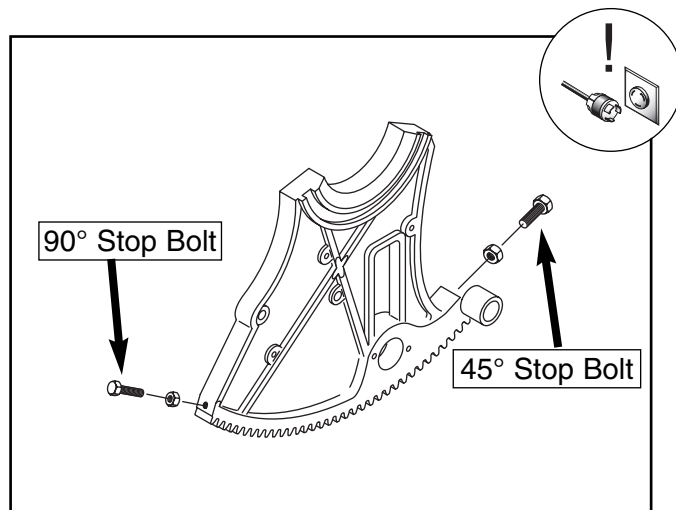

Figure 20. 90° and 45° stop bolts.
4. Adjust the handwheel until the square is flush with the blade. Loosen the tilt indicator arrow, set to zero, and retighten. Loosen and adjust the stop bolt on the left side of the front trunnion (**Figure 20**) to allow a 90° stop point.
5. Repeat **Steps 2-4** for setting the blade to 45° and adjust the 45° stop bolt on the right side of the front trunnion as shown in **Figure 20**. Use the 45° side of a combo square or a bevel gauge set at 45° .